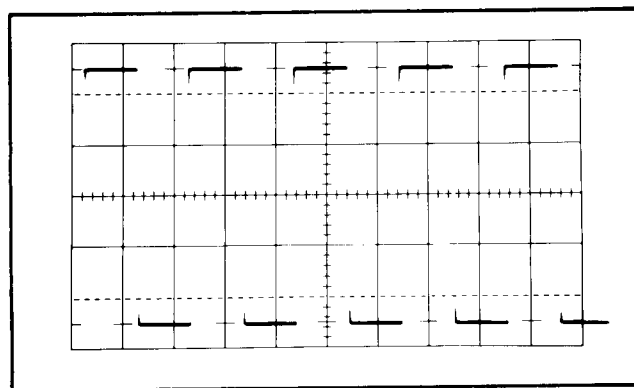

Fig. 5-1. Typical crt display showing correct vertical gain at 10 mV/cm.
- e. Check—Crt display for exactly 5 cm of deflection (see Fig. 5-1).